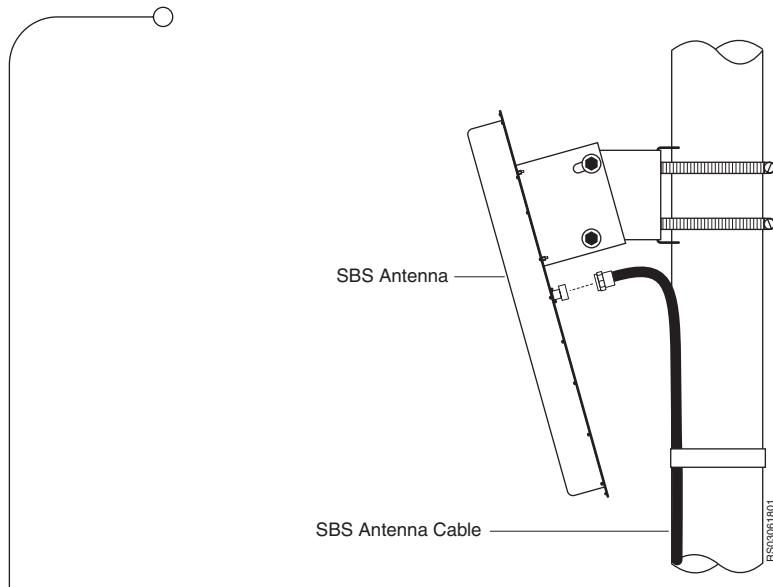

Figure 3.4 SBS Antenna Cable Connection Example
1. Connect the SBS Antenna Cable to the SBS antenna and tighten with wrench, as shown in Figure 3.4.